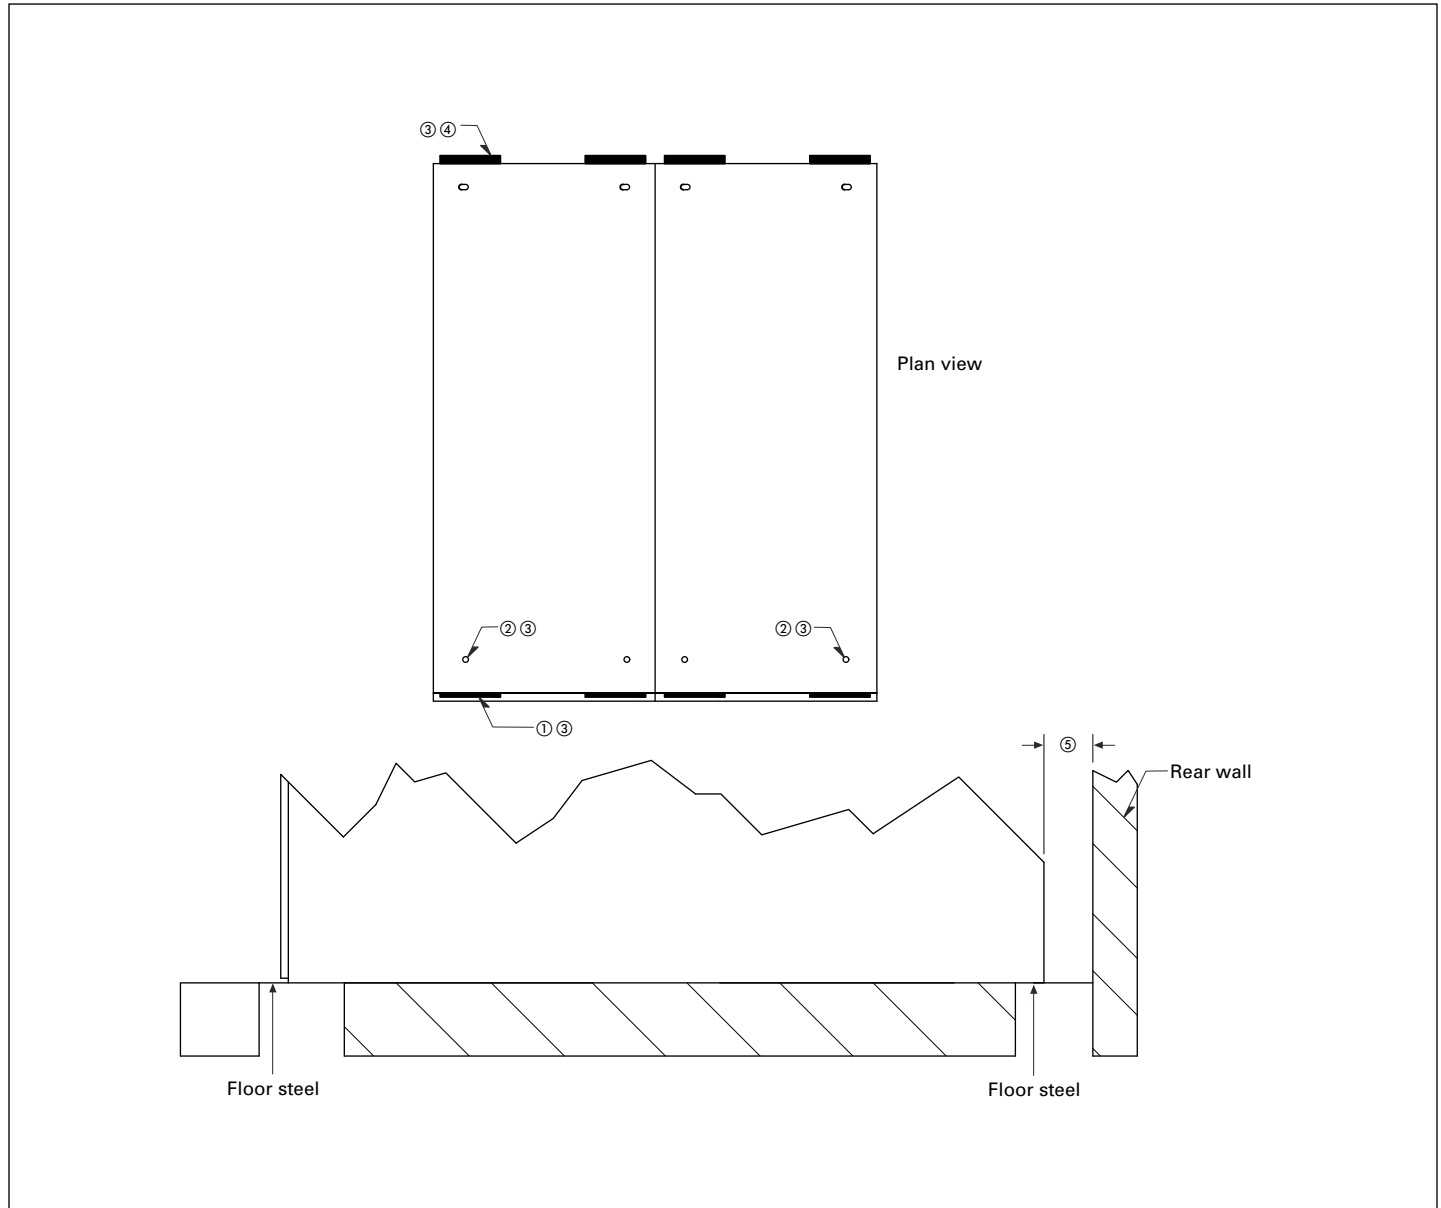

Figure 1. Welding of indoor structures to imbedded floor steel—front-access Magnum switchgear
- ① 0.19 inches (4.8 mm) weld, 4.00 inches (101.6 mm) long at two places on top of each section starting 0.50 inches (12.7 mm) from each edge of structure. See **Figure 1** for front-access front compartment bottom pan weld instructions.
- ② For nuclear installations, weld per AWS D1.1, alternatively, welding procedures and personnel qualifications may be performed IAW ASME BPVC Section IX and the inspections be performed IAW AWS D1.1, and/or D1.3 and/or D9.1.
- ③ A distance of 2.00 inches (50.8 mm), between the wall and the rear of the switchgear, is required to properly secure Front-Access Switchgear when using the rear wallmount brace.